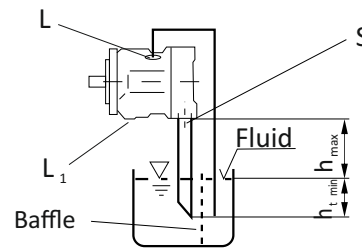

Fig.4
b) If the minimum fluid level is equal to or below the top of the pump, pipe ports "L" and possibly "S" as Fig.4.; close port "L". 1
a) When mounting above the reservoir, see fig.4.